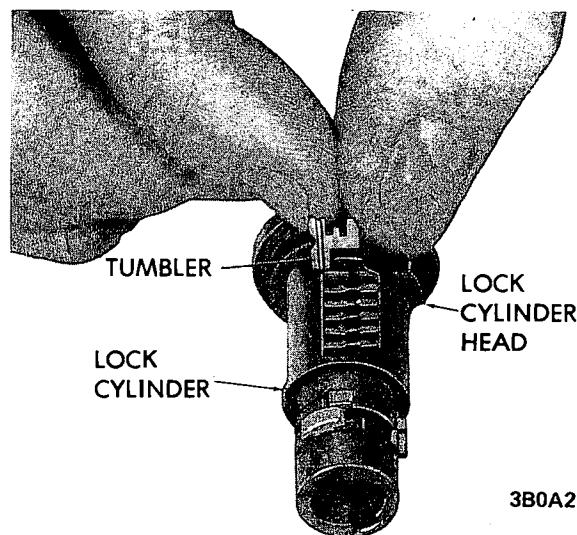

Figure 0A-2 - Installing Tumblers
3. Reverse the lock cylinder so that the head of the cylinder is now toward you. Insert the spring retainer so that the two end prongs slide into the slots at either end of the cylinder. Press the retainer down. See Figure 0A-3.